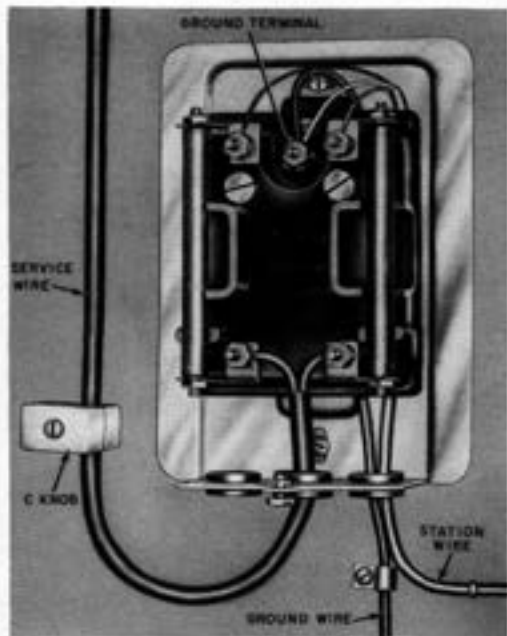

Fig. 39—1293C (MD) Protector, Cover Removed
5.01 The 1293C (MD) protector (Fig. 39) is used for outdoor installations and the 106C protector (Fig. 40) is used for indoor installations. These protectors are the same except the 1293C (MD) protector is comprised of a 106C protector enclosed in a 93C (MD) protector mounting (Fig. 41).